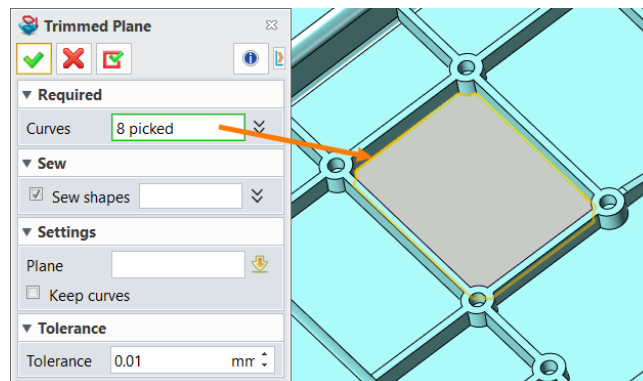

Figure 13 Trimmed Plane
STEP 13 Continue to *Zoom to* another open edge. Use **Trimmed plane** command in **Free Form** tab, then pick the open edge. Setting is shown as Figure13.